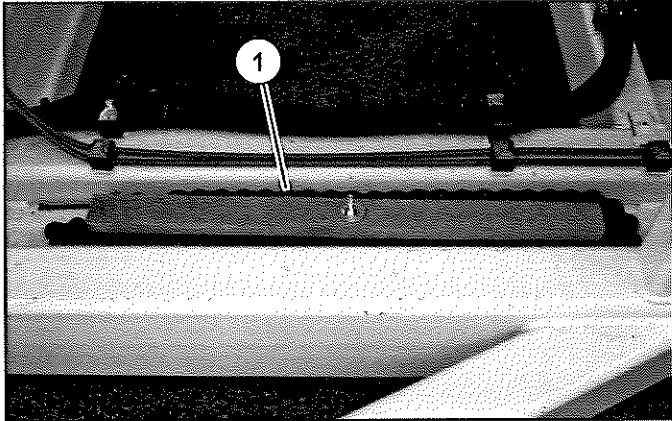

Figure 88
4. Store chain in the transport location. Reinstall power travel guard (Figure 88).